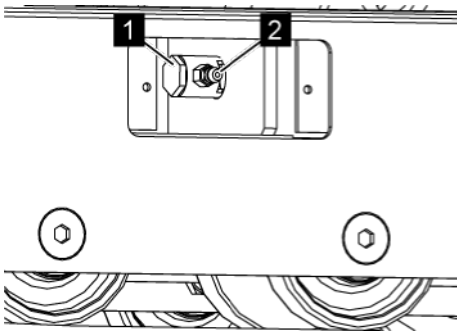
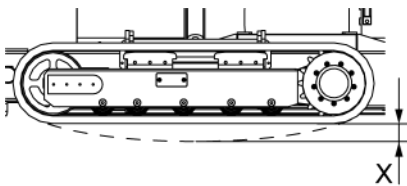

Fig. 150: Turning the slide coupling
Fig. 151: Slack X
5. ➤ Turn the slide coupling (Fig. 150/1) by 180° clockwise until the grease nipple (Fig. 150/2) points outward.
6. ➤ With a grease gun on the grease nipple (Fig. 150/2), insert sufficient multi-purpose lubricant (Item no. 3917/0095) that the chain has slack (Fig. 151/X) of 10–15 mm.
7. ➤ Make sure that no lubricant escapes on the grease nipple (Fig. 150/2).